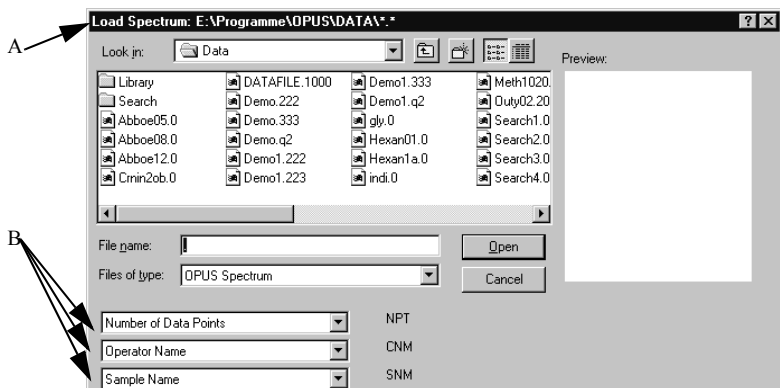

Figure 32: Load Spectrum - No file selected
The title bar (A) shows the directory in which the file is located. Three parameters (B) of the OPUS file selected are shown by default. You can select the specific parameters you want to have defined from the drop-down lists. Since no file has been selected yet in figure 32, the parameter abbreviations are shown.